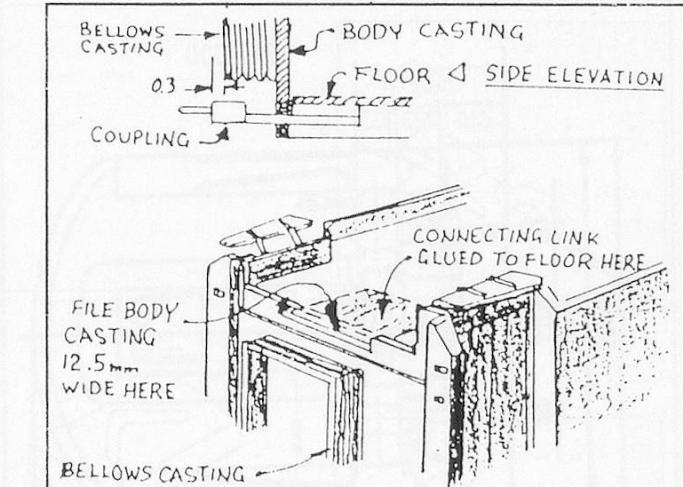

Figure 1 Mounting Couplings
4. To fit the coupling connection to bogie coaches and luggage vans, it will be necessary to file a recess about 12.5mm wide in the bottom edge of the body moulding end. This will allow the body's edge to match the underside of the floor moulding. When fitted the coupling head should project about 0.3mm beyond the projecting corridor bellows moulding. See Figure 1.